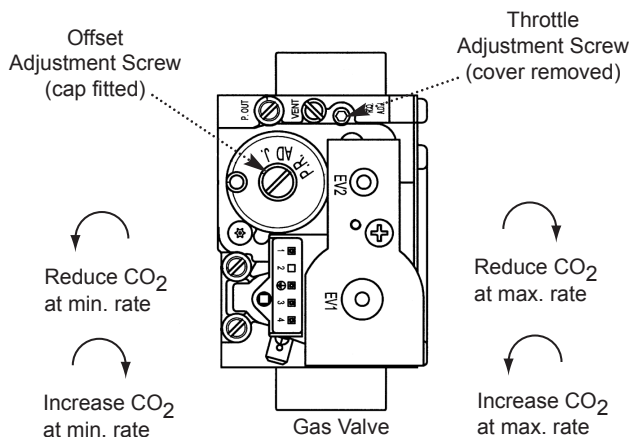

Fig. 55
6. Check the CO₂ is 8.9% \pm 0.1%. If the CO₂ is incorrect alter the Offset Adjustment Screw (Fig. 55). Turn the screw clockwise to increase the CO₂ or anticlockwise to decrease (4mm hexagon key).